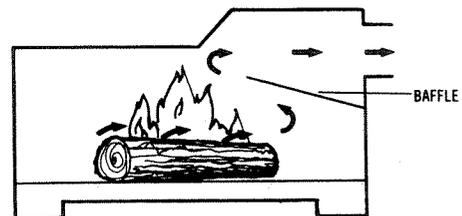

Fig. 47. Flow-pattern and baffle in the Alaskan.
20. **Chester B. Nolt** (distributor), 24 S. Hershey Ave., Bareville, Leola, PA 17540. The Alaska freestanding fireplace/stove (Fig. 47) is a two-level step stove made out of steel boiler plate. It is firebrick-lined, has cast-iron doors that seal airtight, and a horizontal baffle as in Scandinavian-type stoves. It is chrome-trimmed with a sandblasted finish. A "hot air unit" is available as an option. Lifetime guarantee on all five models. The Alaska is similar in appearance to the Fisher, Timberline, and other step stoves.